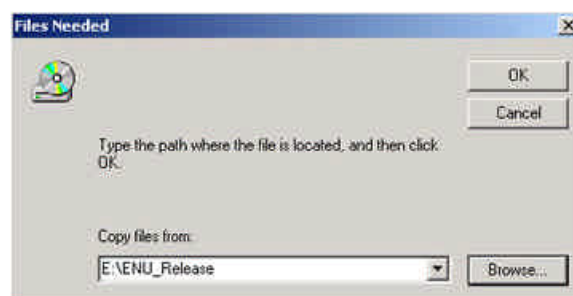

Fig. 6
4. You will now be asked to locate the Printer Driver. Click on the Browse button (as shown in Fig. 6) and navigate to file on the Printer Driver CD, which you have just placed in your CD-ROM drive.